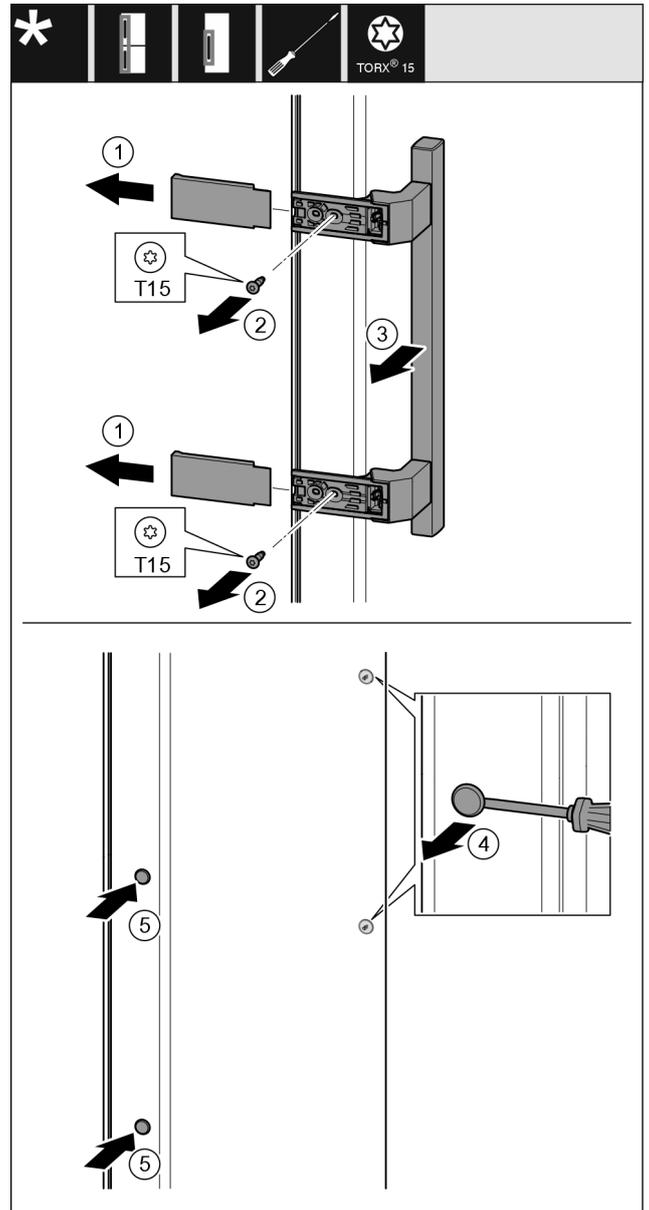

Fig. 21
- ▶ Remove the cover Fig. 21 (1).
- ▶ Unscrew screws Fig. 21 (2) with screwdriver.
- ▶ Remove the handle Fig. 21 (3).
- ▶ Use a slotted screwdriver to lift the side plug Fig. 21 (4) carefully and pull it out.
- ▶ Re-insert the plug Fig. 21 (5) on the other side.